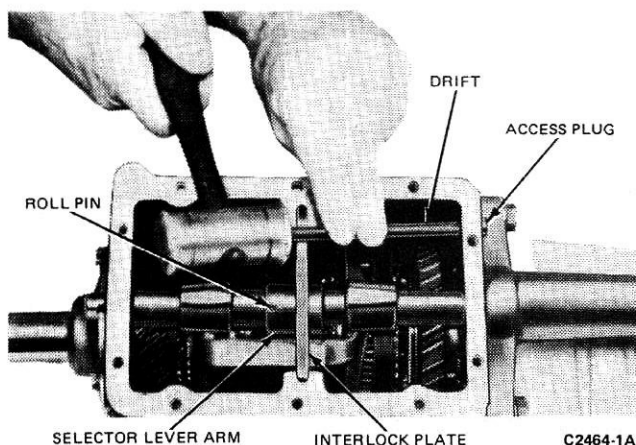
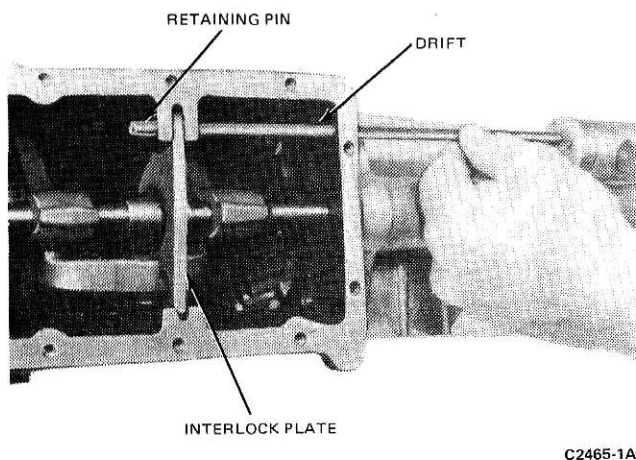

FIG. 14 Removing Interlock Plate Access Plug
FIG. 15 Removing Interlock Plate Retaining Pin
4. Drive the access plug from the rear of the case (Fig. 14). Drive the interlock plate retaining pin from the case as shown in Fig. 15. Lift the interlock plate from the case.
5. Remove the roll pin (Fig. 14) from the selector lever arm.